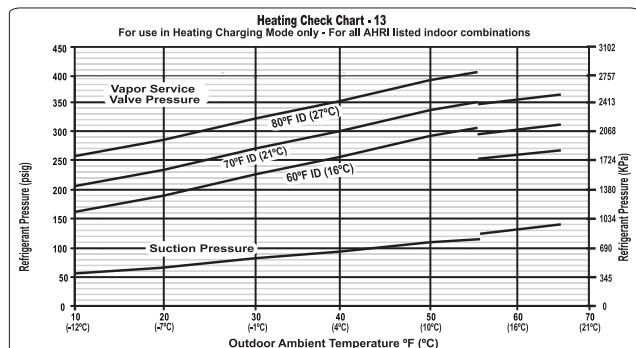

Fig. 27 – Heating Pressure Check Chart 25VNA813
Heating Check Chart Procedure (See Fig.27 - 33) (Communicating / Non-communicating Systems)
To use the Heating Check Chart, the user interface (UI) must be in Refrigerant Charging mode selected from the Installation and Service screen. The Charging Mode Selection screen will show selections for Weigh-In Charge Method or Heating Check Charge Method. Select Heating Check Charge Method. The Heating Check Charge method will only be displayed if the conditions are right for checking the charge in heating mode. When Heating Check Charge Method is selected, the system will operate by running in stage 5 with appropriate outdoor fan speed and indoor airflow. Upon completion of a countdown period for system stabilization, check refrigerant pressures for the appropriate ambient temperatures shown in Fig. 27 through 33 based the OD unit size.